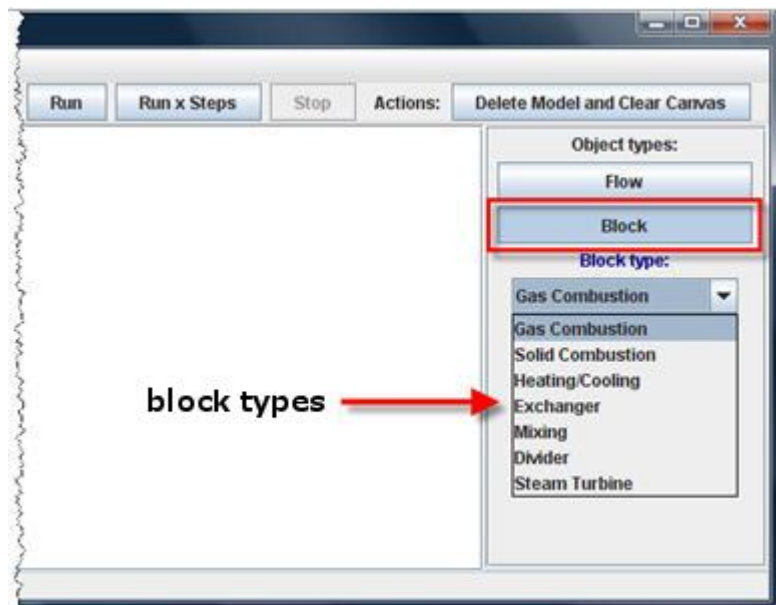

FIG. 4: Entering of blocks
1. Switch to insert mode. The editing panel (*insertion panel*, in this special case) pops up at the right part of the application window (see Fig. 4); select *Block* button from there (unless it is automatically selected) and you'll be presented with a dropdown menu filled with all available types of blocks.